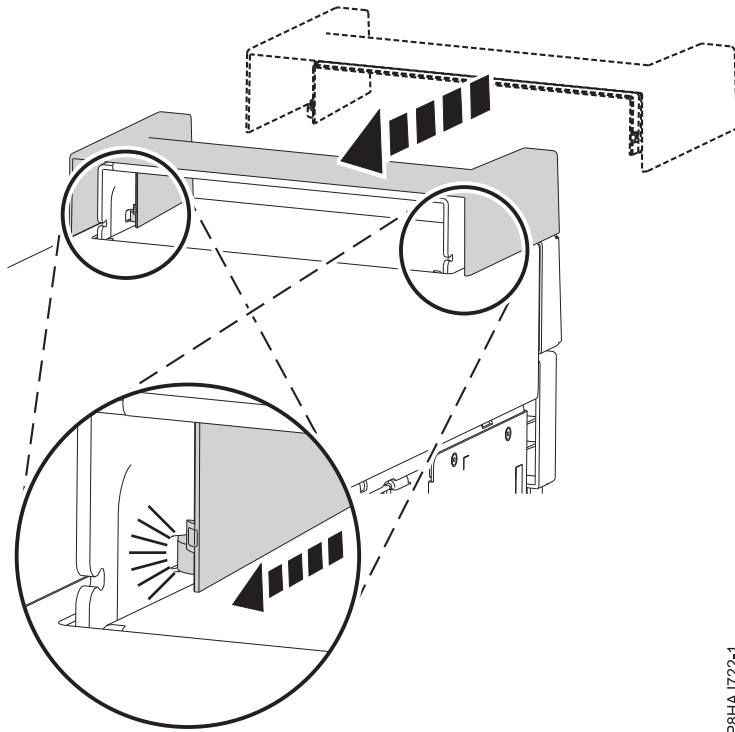

Figure 35. Securing the handle cover in an 8286-41A stand-alone system
1. Secure the handle cover to the internal RDX docking station (FC EUA3) by sliding it toward the rear of the system. See Figure 35.